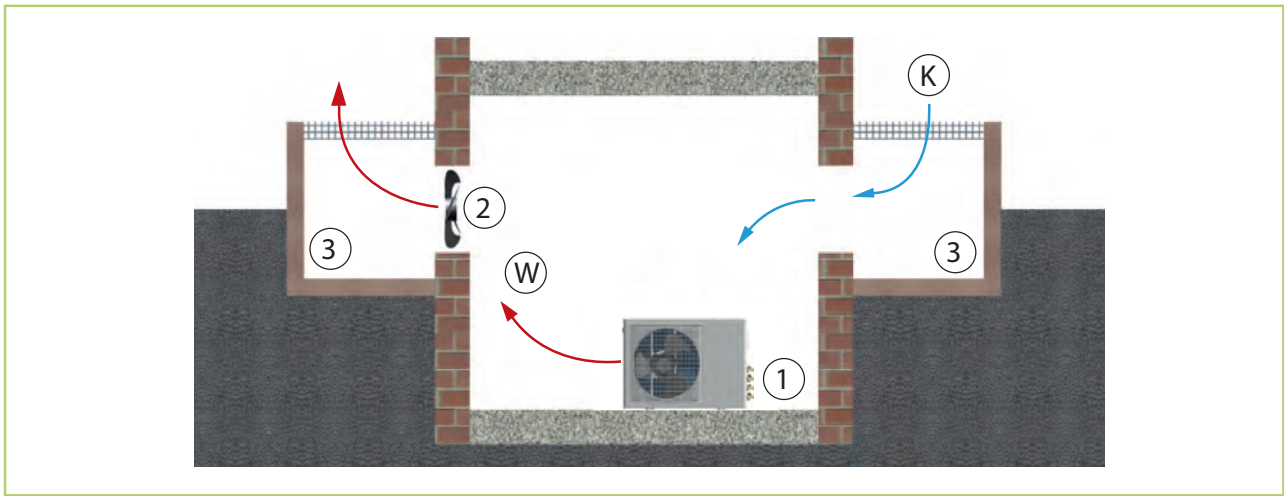

Fig. 26: Installation inside buildings
- Ensure that heat can dissipate adequately when placing the outdoor unit in cellars, lofts, adjoining rooms or halls (Fig. 26).
- Install an additional fan with a rated flow comparative to that of the outdoor unit being installed in the room and which can compensate any additional pressure loss in ventilation ducts (Fig. 26).